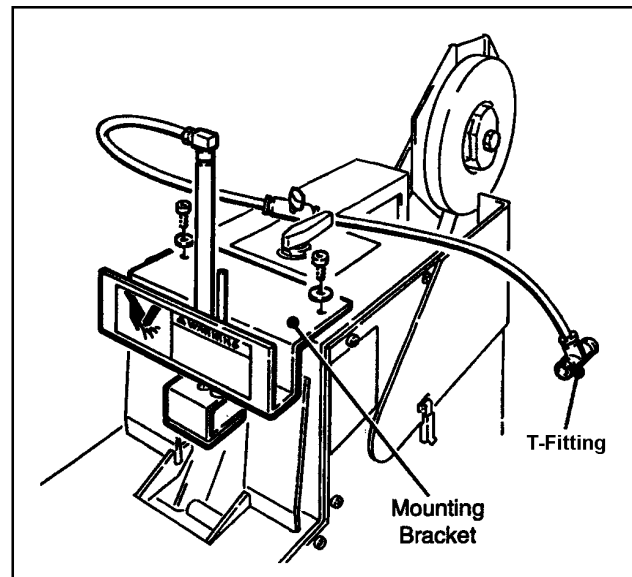

Figure 2—Attach Mounting Bracket
3. Attach mounting bracket to the front edge of the L-clip applicator with two 10-24 x 1/2 capscrews and plain washers as shown in Figure 2.
4. Remove the T-fitting from end of poly tubing on modification kit. Push end of fitting in to release tubing. See Figure 2.